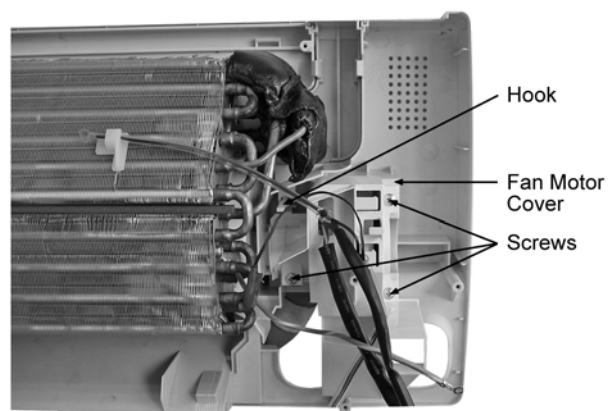

Fig. 11
17. Release the 3 screws Fan Motor Cover. (Fig. 11)
18. By pressing down the hook at the left, you will be able to remove the Fan Motor Cover. (Fig. 11)